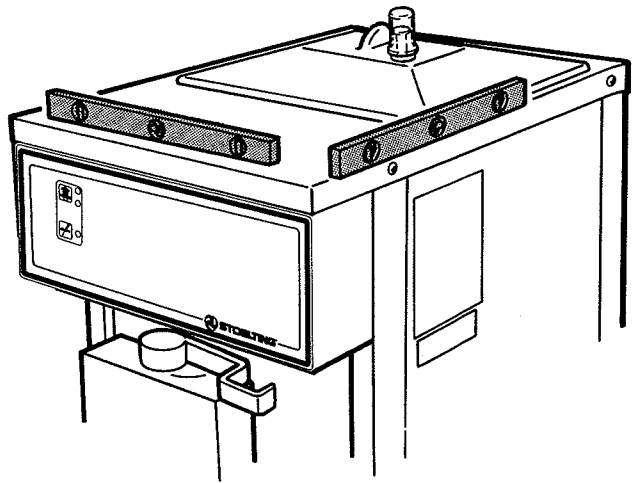
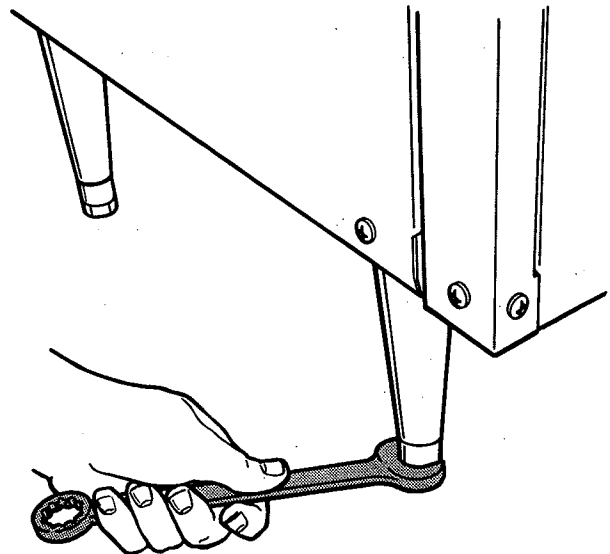

Figure 2. Leveling Freezer
Figure 3. Leg Adjustment
- C. **Leveling Freezer.** Accurate leveling is necessary for correct drainage of freezer barrel and to insure correct over-run. Place a spirit level on top of the freezer at each corner to check for level condition (Fig. 2). If adjustment is necessary, level the freezer by turning the bottom part of each leg in or out (Fig. 3).